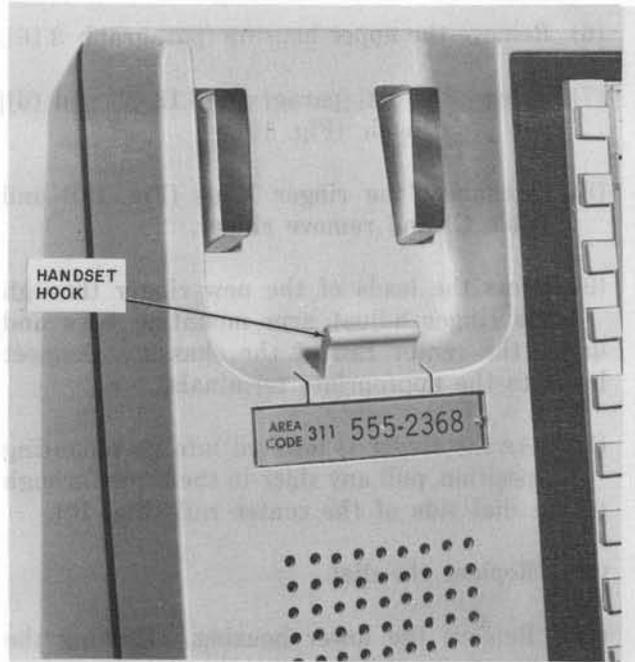
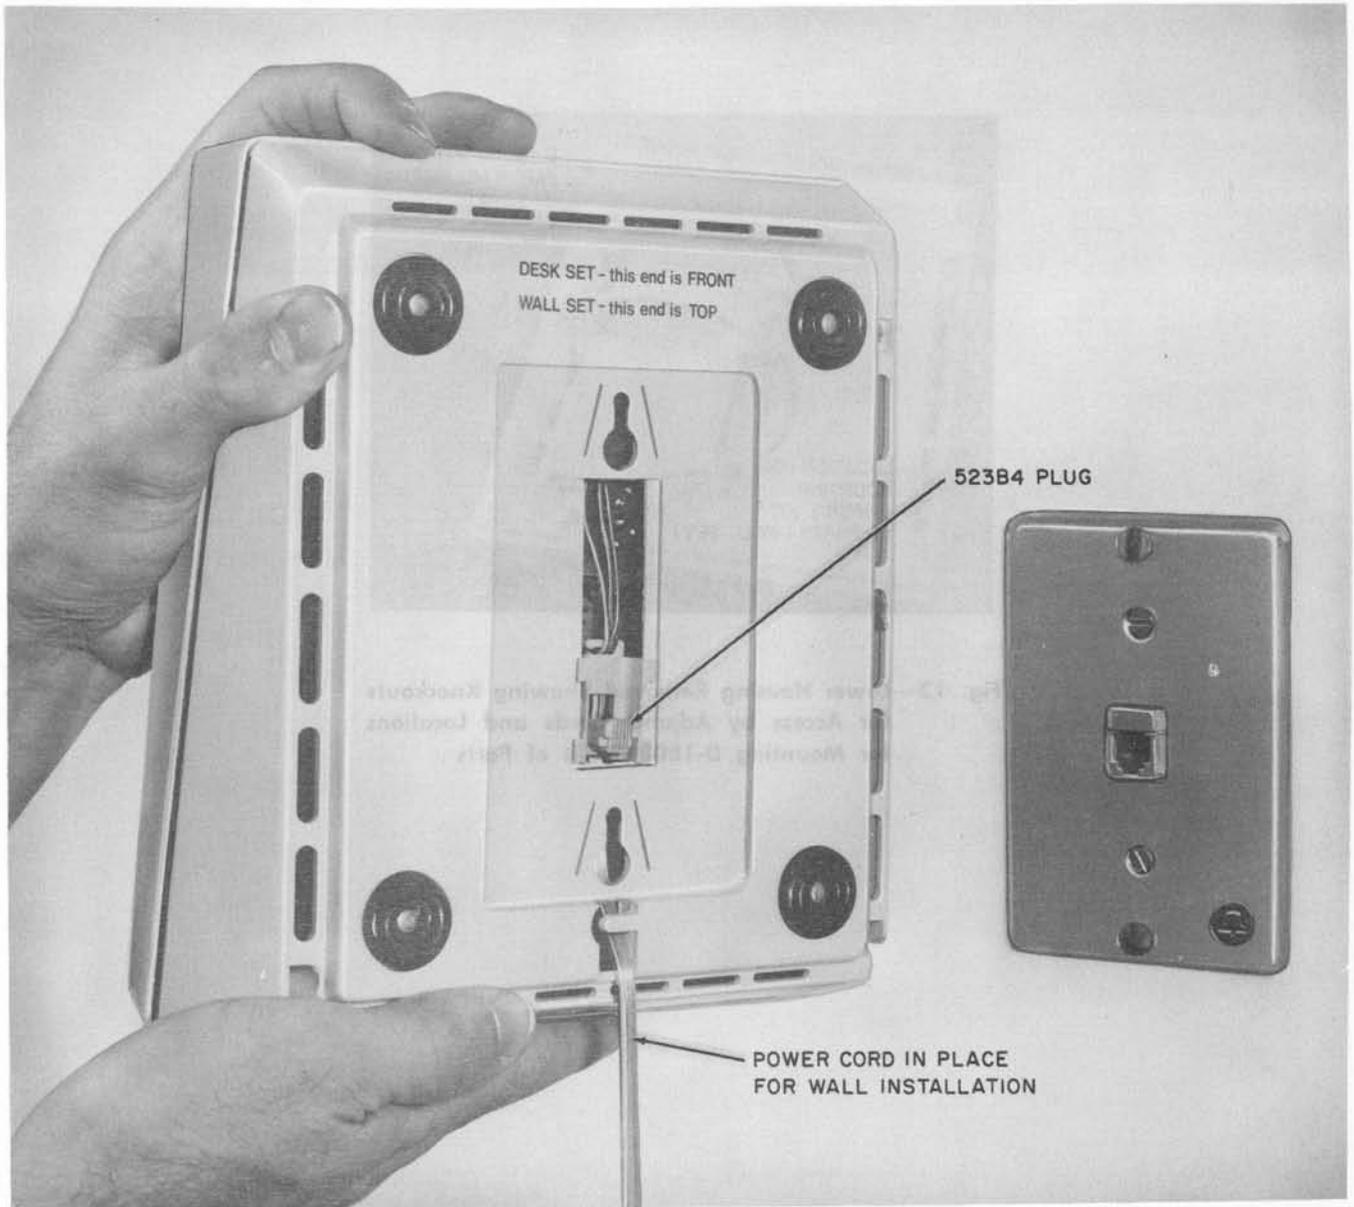

Fig. 11—960A01M Telephone Set With Handset Hook Reversed for Wall Mounting
Fig. 12—950A01M Wall Set and 630A4 Connecting Block
- (4) Remove the 523B4 plug from its stored position and snap both sides of the plug into rectangular slot in the bottom of the lower housing. Snap plug in from the outside such that the word **TOP** is properly oriented in the housing (Fig. 12). The plug should slide freely in the slot.
- (5) Insert the other end of the 523B4 plug into the jack position designated **PHONE** on the power supply board.
- (6) Insert the power cord up through the cord opening below the plastic retainer tab in the bottom of the lower housing (Fig. 12).
- (8) Place the lower housing on the chassis according to the instructions on the bottom (Fig. 12), and engage the four captive screws.
- (9) Remove the station number card retainer and station number card from the upper housing.
- (10) Disengage the captive screw from the chassis and lift out the concealed handset hook and screw from the cavity in the upper housing.
- (11) Completely remove the captive screw from one side of the handset hook and insert it into the other side.
- (12) Place the handset hook back into its cavity in the upper housing, engage the screw with the chassis, and fasten the hook down (Fig. 11).
- (13) Replace the station number card and card retainer.
- (14) The converted wall set is intended to plug into and secure to a 630A4 connecting block (Fig. 12 and 16B).